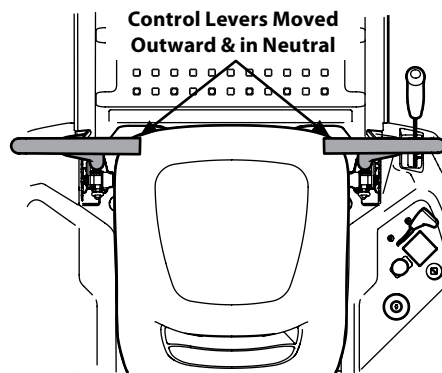

Figure 3-2
- Operator must be sitting in the tractor seat with the drive control levers fully outward in neutral activating the parking brake. See Figure 3-2.